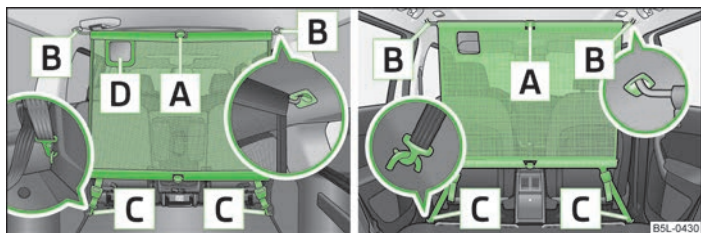

Fig. 60 Using the net partition behind the front/rear seats
- First of all insert the cross rod into the mount **B** » Fig. 60 on one side and push it forward. In the same way, insert the cross rod into the mount **B** on the other side of the vehicle.
- Undo the belts on both sides and unhook the carabines **C** » Fig. 60.
- Press the red button of the joint **A** » Fig. 60- the joint becomes loose.
The opening **D** » Fig. 60 in the net partition is designed to feed through the three-point seat belt » page 135.